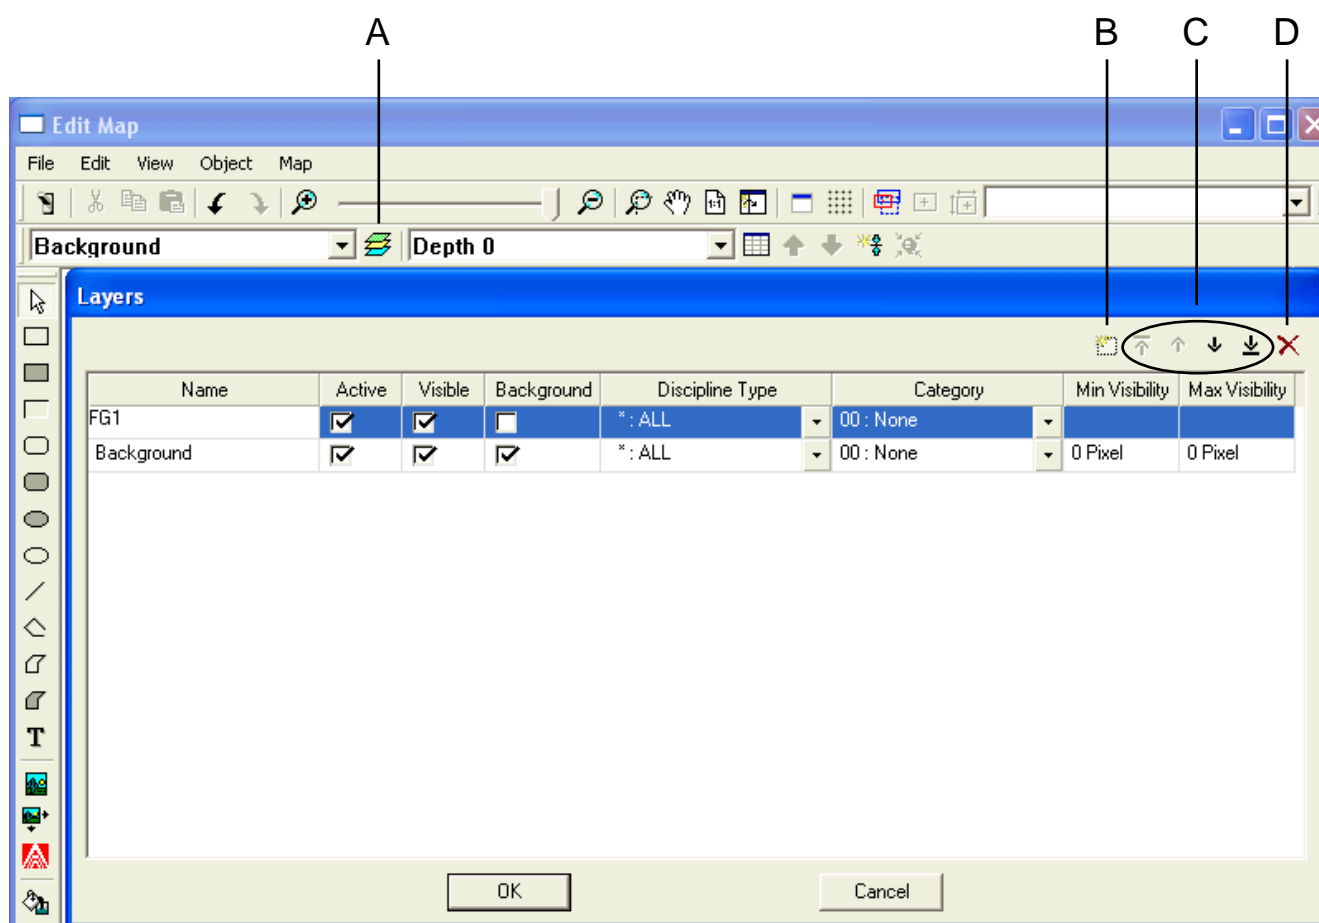

Fig. 5 Create a new layer
1. Select the Edit Layers icon  to open the 'Layers' window (see Fig. 5)